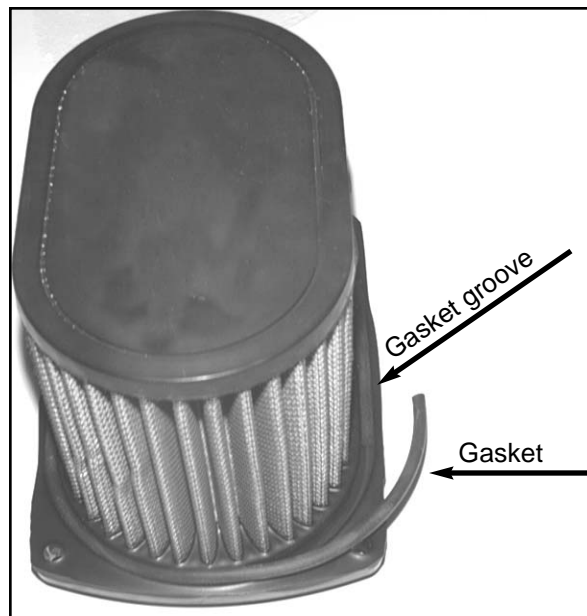

Fig. 1
2. Install the provided gasket into the groove of the K&N Filtercharger® without stretching it. (Fig. 1)